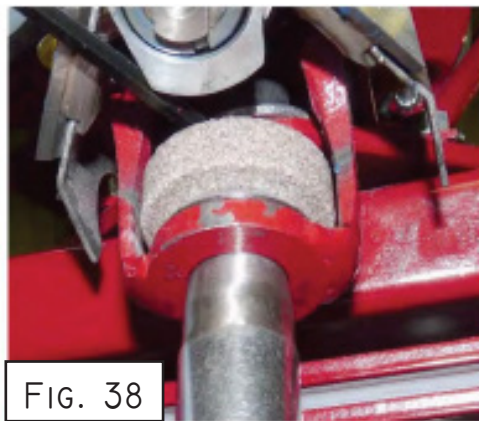

FIG. 38
4. While holding the Allen Head Wrench in place, let go of the manual sharpening lever, then insert the Special Socket into the bottom of the Stone Cradle (see Fig. 38) to make contact with the Jam Nut. Loosen and remove the old Stone and Paper Washers. In reverse order replace the new Stone and Paper Washers. Tighten securely to remove any play left between the Stone in the Cradle and the Bearing housed in the Grinding Stone Cradle. NOTE: There should not be any "wobble" of the stone if the nut is securely tightened.